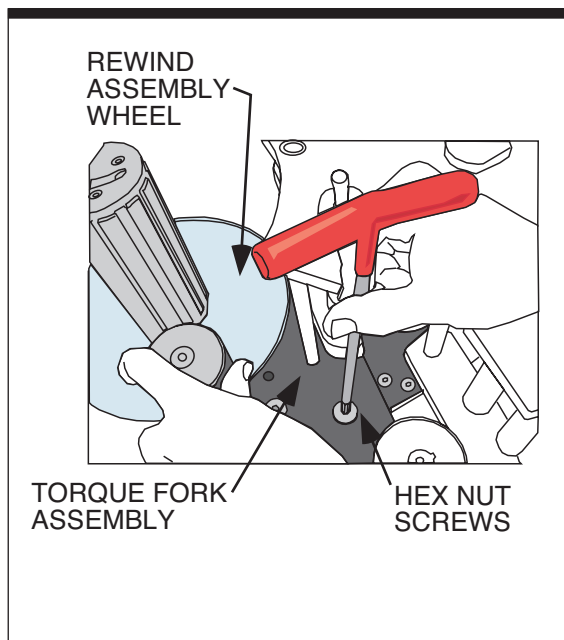

Figure 4-16. Torque Fork Assembly Hex Nuts
- Step 4.** Remove the Torque Fork Assembly by loosening and removing the two hex nut screws on the face of the assembly (see Figure 4-16 and 4-17). Set the assembly aside.